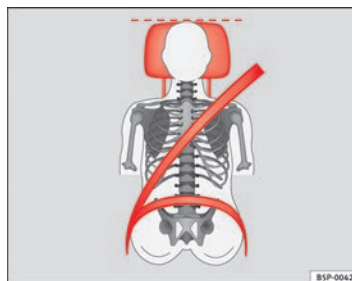

Fig. 12 Correct seat belt and head restraint positions, viewed from front
- The shoulder part of the seat belt must lie on the centre of the shoulder, never across the neck. The seat belt must lie flat and snugly on the torso ⇒ page 23, fig. 12.